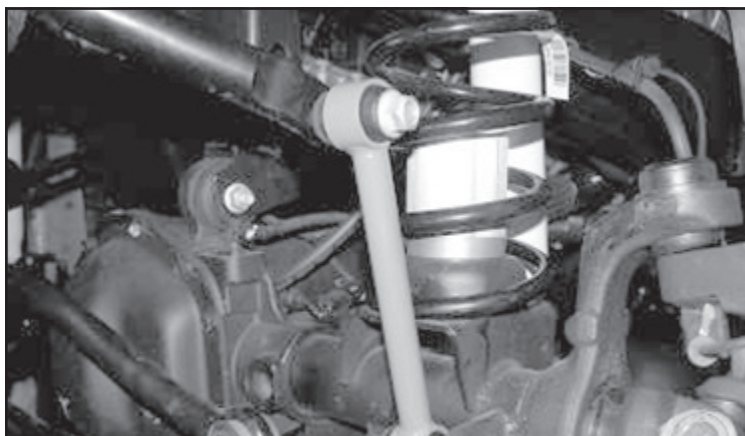

FIGURE 27 - STEP 17
17. Locate FT50261 Front Sway Bar Endlinks, FT50048 & FT5009 bushing and sleeve kits. Press one bushing and one sleeve from the supplied bushing kit into each end of the end link. With the factory hardware, connect the new end link to the sway bar, then using the supplied $\frac{1}{2}$ " x $2\frac{3}{4}$ " bolt, nut, and washers connect to the lower sway bar mount. Torque the upper hardware to 40 lbs and the lower hardware to 75 ft-lbs. **SEE FIGURE 27**